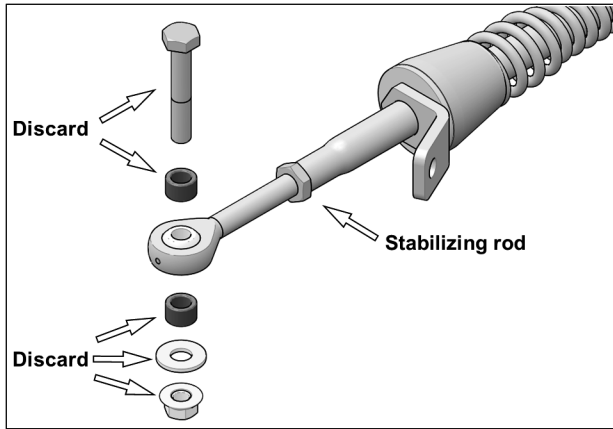

Fig. 14
3. Remove and discard bolts, nuts, washers and bushings from front stabilizing rod ends as shown in Fig. 14